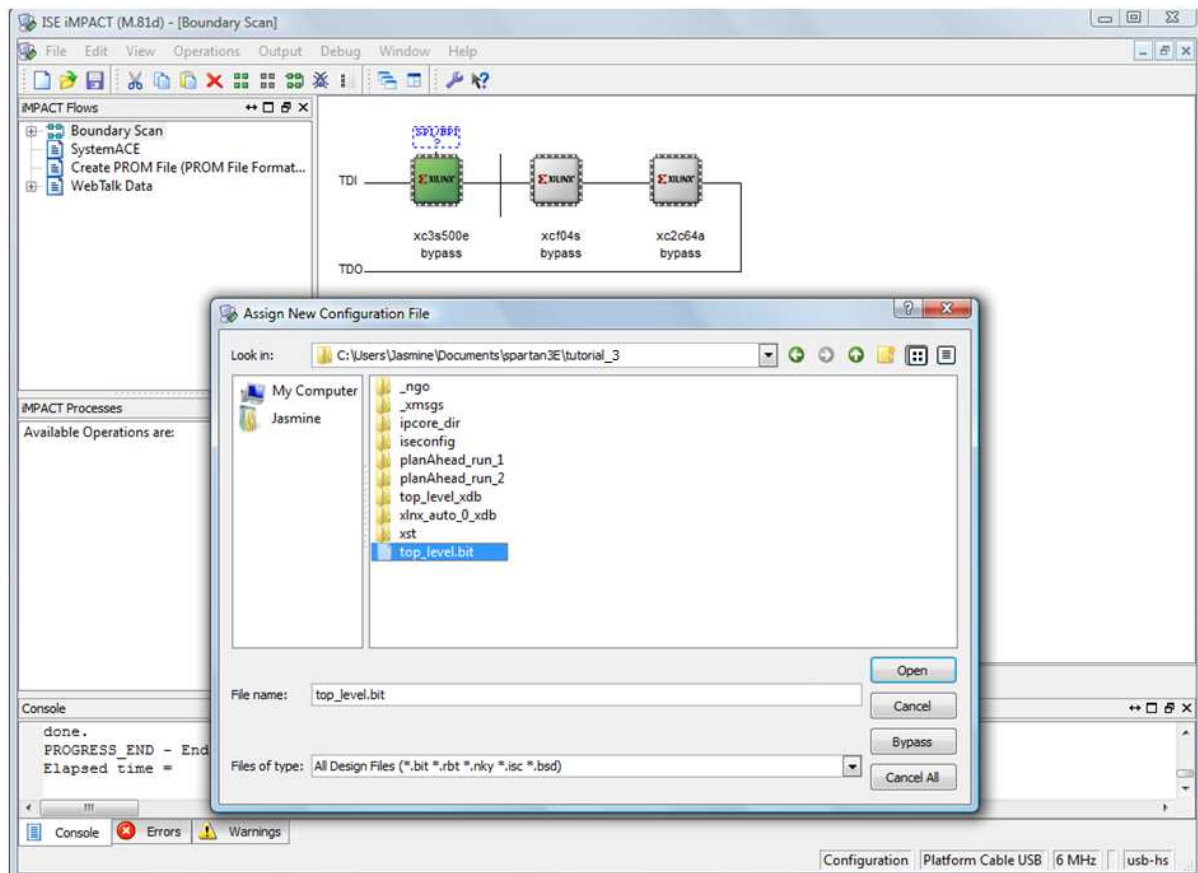

Figure 6.53: iMPACT window, assigning the configuration file for the xc3e500e.
8. The **Assign New Configuration File** window will appear (Figure 6.53). Select the file “top_level.bit”, and click **Open**. This associates the file top_level.bit with the xc3s500e.